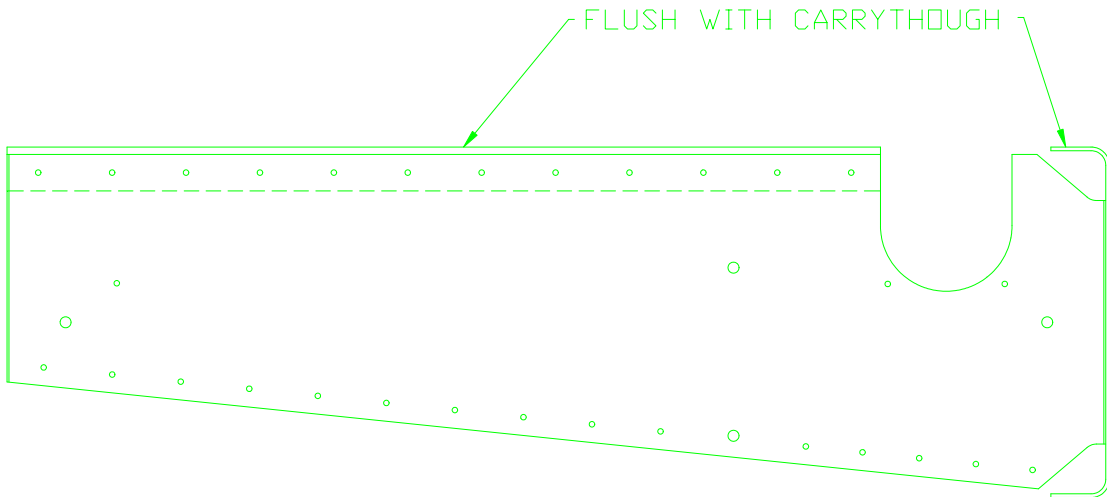

FIGURE 14
- 20) Position on the upper inside surface of each inside shear web so the top is flush with the carrythroughs. Drill to #30 and install with 1/8 avex rivets. Figure 14.